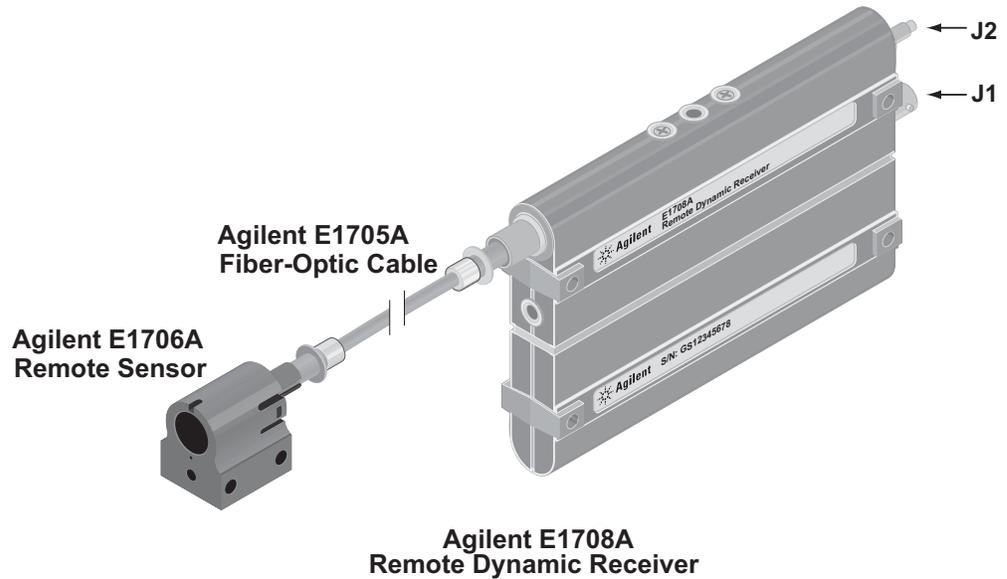

Figure 268 Agilent E1708A Remote Dynamic Receiver
The Agilent E1708A Remote Dynamic Receiver, shown in Figure 268, is intended for use in applications requiring sub-nanometer resolutions of systems in motion. It extends the performance of systems that use the Agilent 10897C High Resolution Laser Axis board for VMEbus by providing performance consistent with the high resolution and low variable data age of that board. As the Doppler shift caused by motion of the system stage changes the measurement frequency, the Agilent E1708A receiver ensures minimal phase processing errors. The E1708A also provides immunity to errors induced by changes in measurement signal (laser input) power level.
The Agilent E1708A receiver's body contains the photodetector, preamplifiers, and a detector circuit designed to convert the laser beam returning from an interferometer into a differential square wave at the Doppler frequency (100 kHz to 7.2 MHz). The Doppler frequency contains the measured displacement information (MEAS signal), representing the relative motion between an interferometer and its associated reflector. A squelch circuit allows the receiver's signal output to be turned off automatically if the input signal is not strong enough. A secondary output from the receiver is a dc level that is proportional to the input signal strength. LED indicators on the receiver light when any input signal is detected. For a block diagram, see Figure 268.
- 8 Signal strength connector (J2, see Figure 268)
- 9 Output signal/input power connector (J1, see Figure 268)